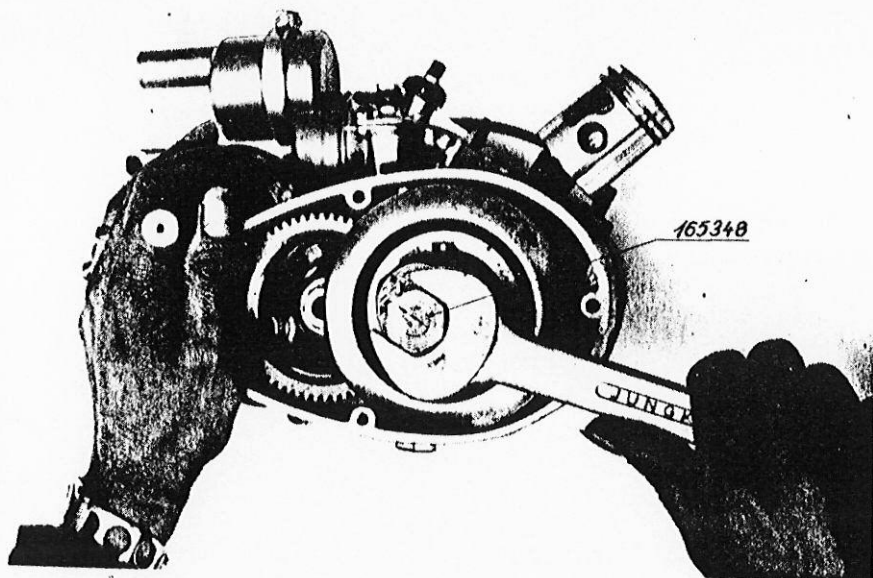

Fig. 15
- withdraw clutch assembly using an extractor tool (fig.15)